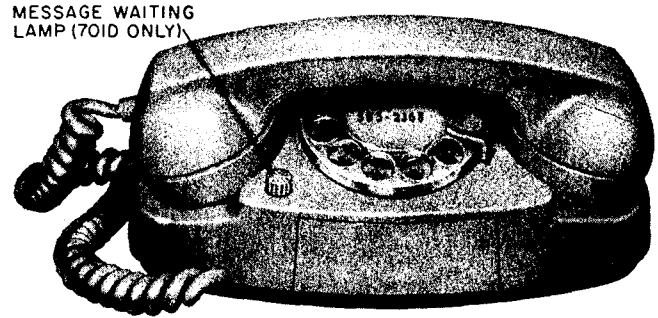

Fig. 3 — 701-Type Telephone Set
2.04 The 701-type telephone sets (Fig. 3) are rated Manufacture Discontinued (MD).
2.08 The 701D telephone set is equipped with a message waiting lamp (see Fig. 3). This set is intended for use with PBX which provides message waiting feature.